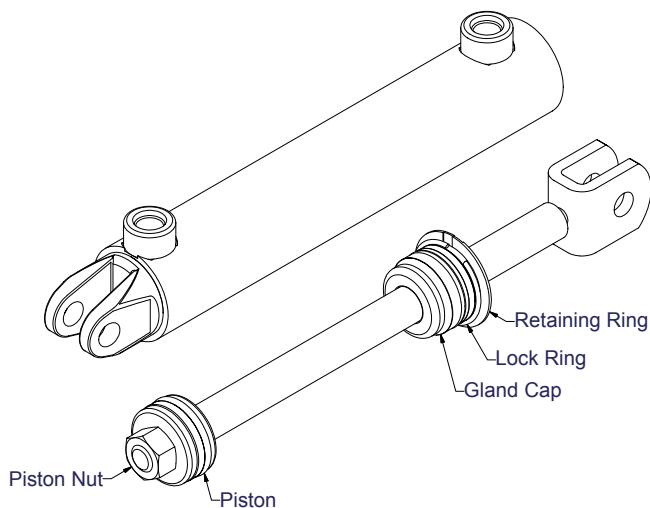

Figure 3-3, Rod Assembly
7. Remove the piston retaining nut and remove the piston. (Figure 3-3)